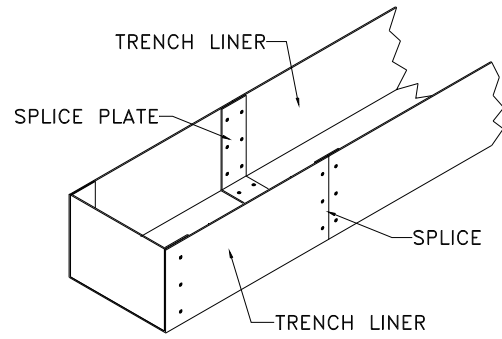

Figure 14
STEP 8. Spot weld or rivet the free end of the splice plate to the mating section of the trench liner, ensuring that the mating sections of the trench liner remain as tightly abutted together as possible (see Figure 14).